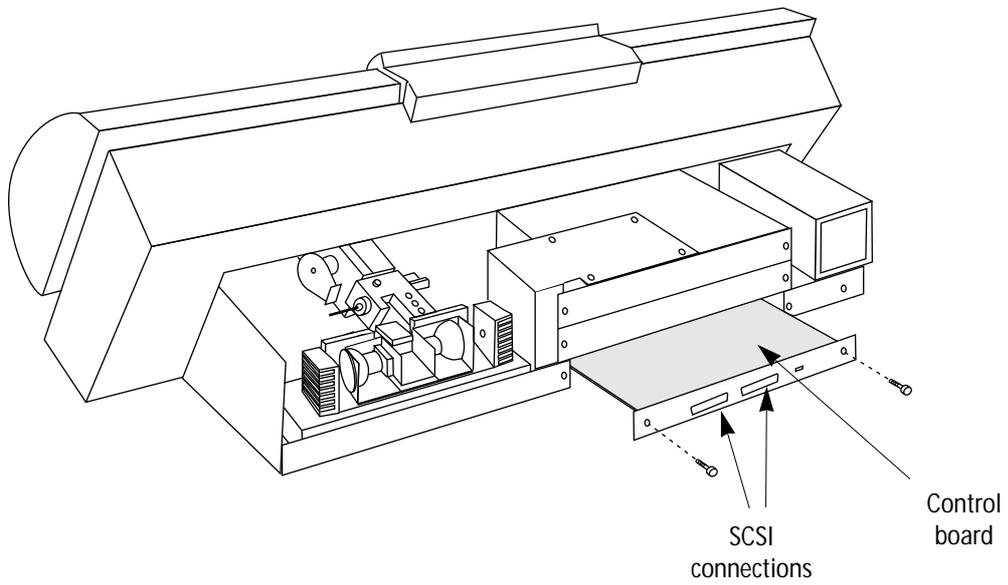

Fig. 3
- 2 • Remove the two 3 mm allen screws securing the control board (together with the SCSI connectors), to the hardware unit and remove the board by carefully sliding it out of its tray, (fig. 3).